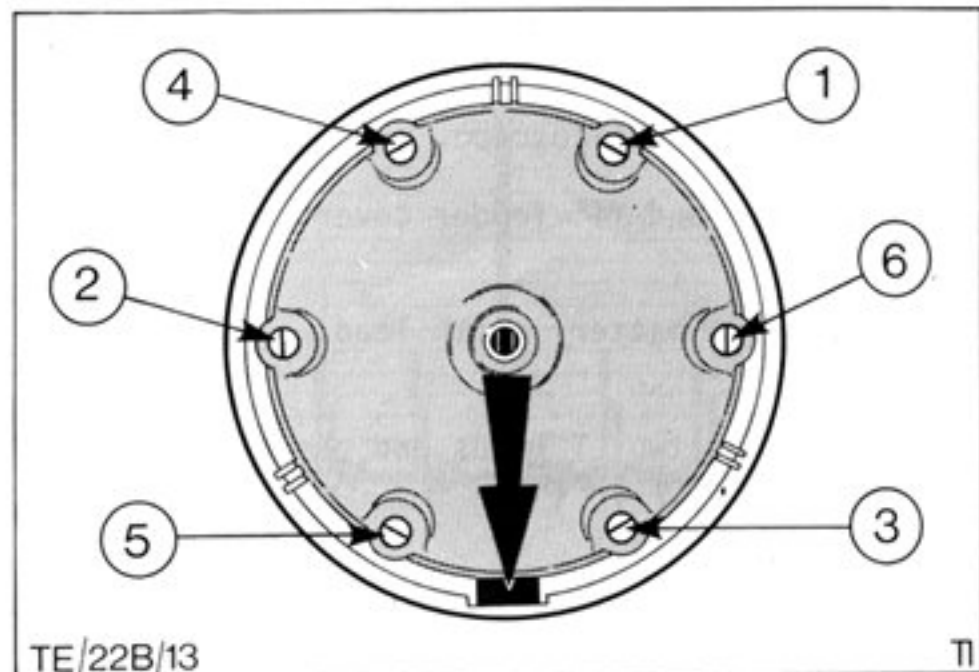

Fig.47. Breakerless distributor cap showing HT lead connections as viewed inside cap. Locating lug arrowed.
5. Reconnect HT leads in correct order as shown in Fig.47. (Firing order 142536)